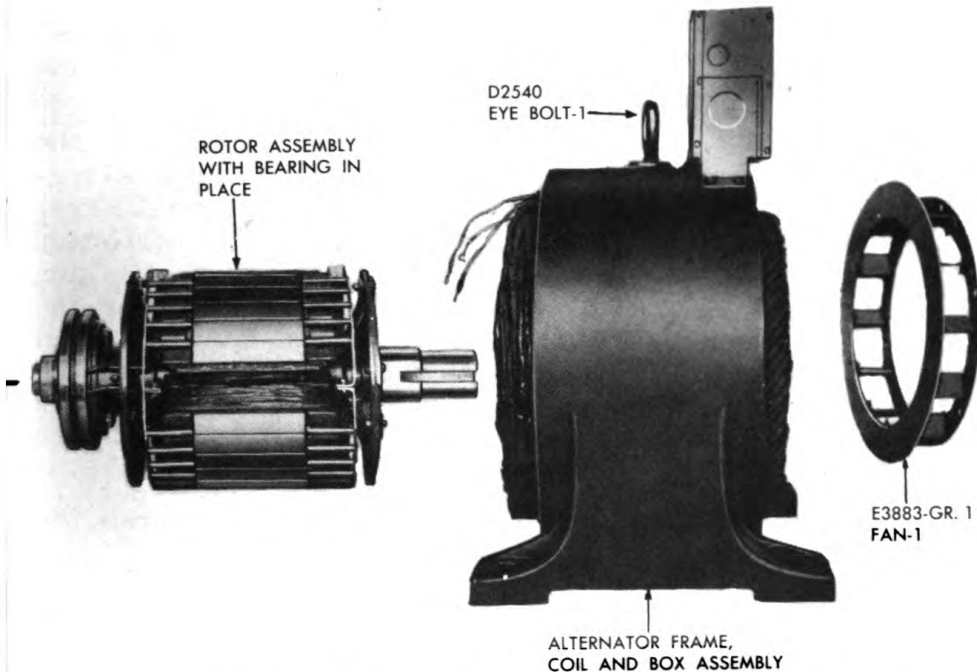

Figure 294. Exploded Alternator and Exciter
4. Remove exciter as follows: (Refer to Figure 294.)